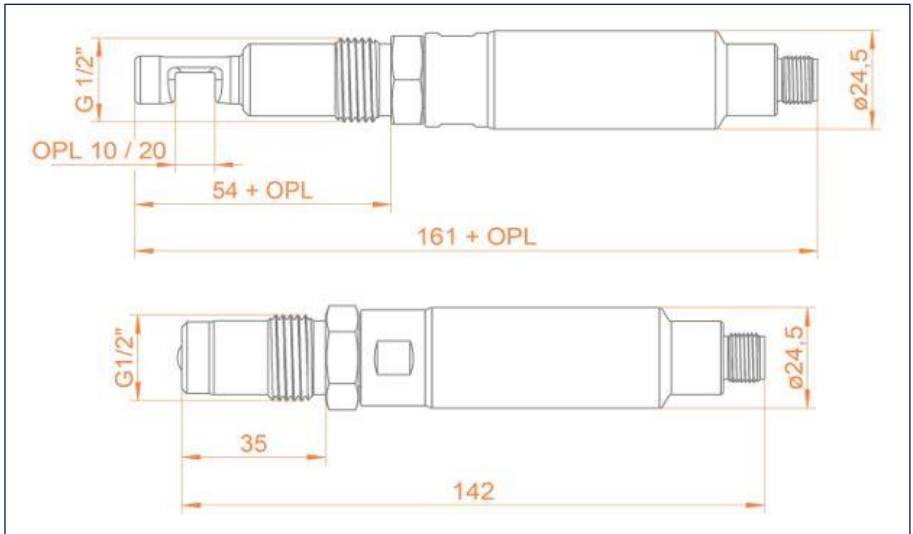

Fig. 1: Dimensions for sensors EXplore 131 (top) and EXplore 171 (bottom)
2. Tack-weld the sockets using 4 evenly distributed points (Fig. 1, below)